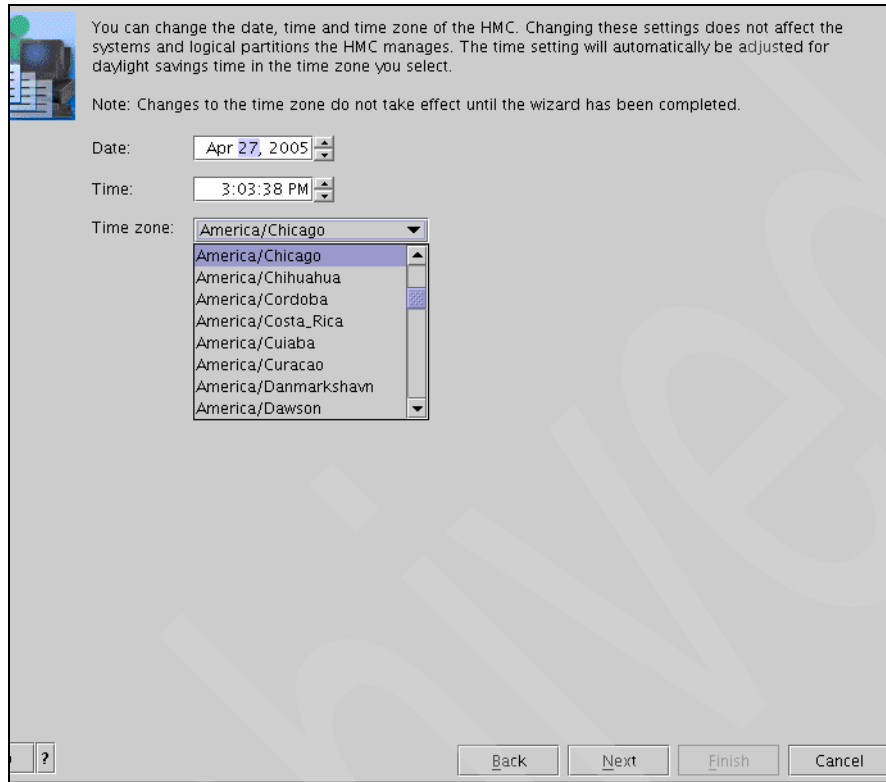

Figure 4-5 HMC Guided setup - Time and date setting
5. On the Guided Setup wizard - Change HMC Date and Time panel (Figure 4-5 on page 110), enter the correct date/time and time zone for your environment. This is typically the time zone of the server, assuming the HMC is local to the machine. For remote machines, you must decide which is the correct time zone for your environment.